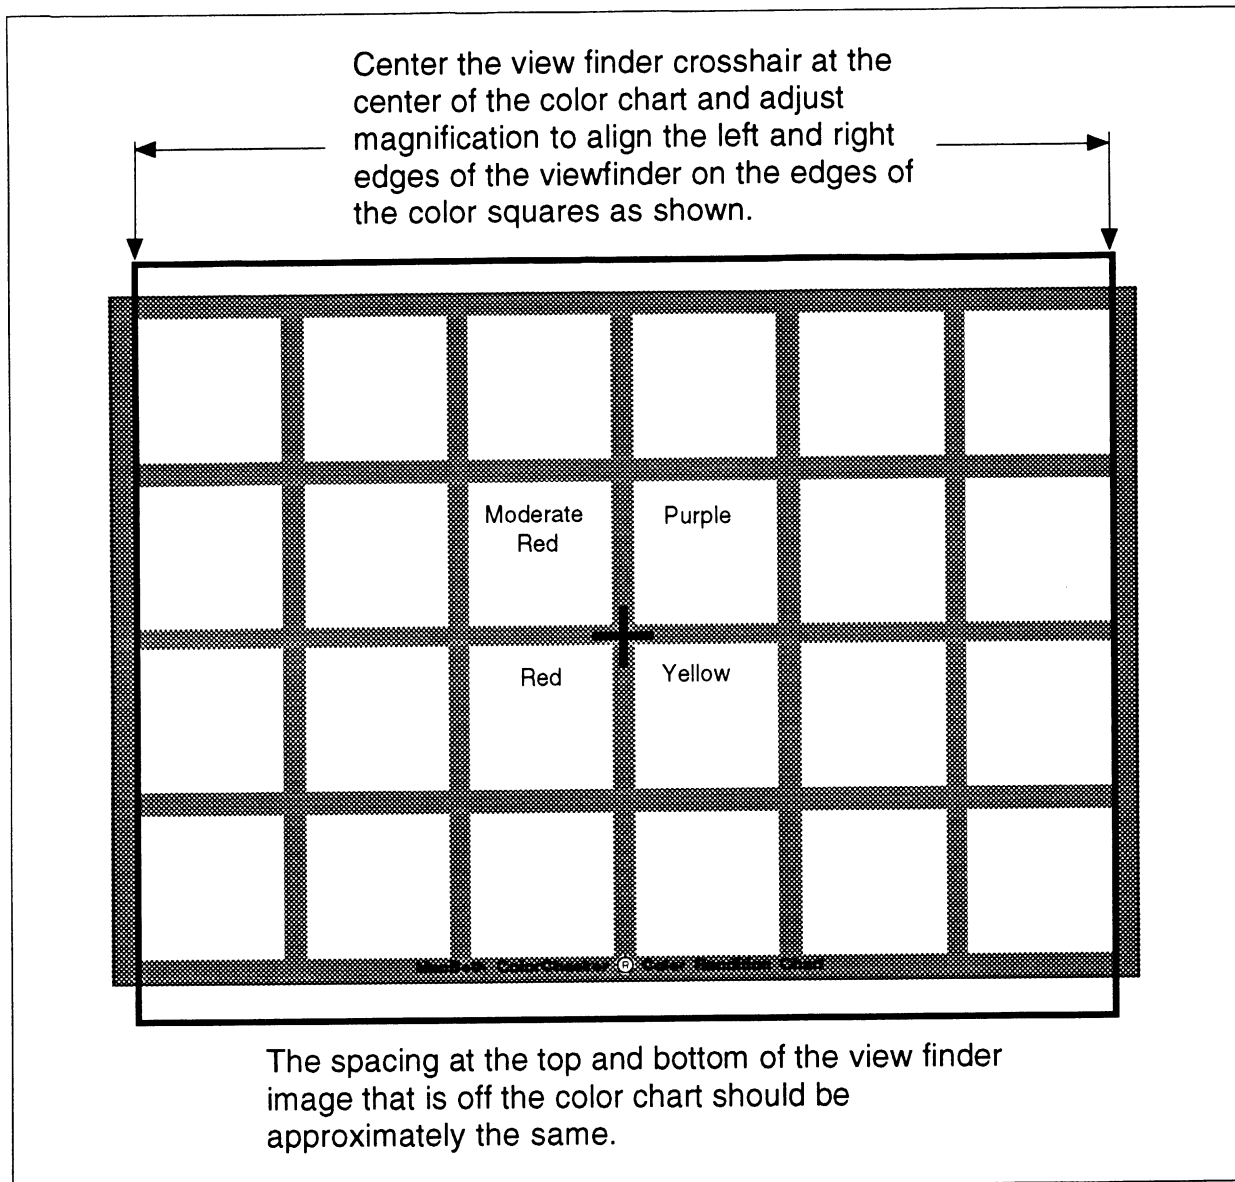

Figure 3-1. Macbeth ColorChecker camera setup for colorimetry measurement.
- If using a standard Macbeth color chart, aim the camera so that the cross-hairs in the camera viewfinder fall between the four center color chips on the chart. (These chips are moderate red, purple, red, and yellow.) Set the camera’s magnification so that the leftmost and rightmost edges of color chips on the chart lie within the viewing area. Because of the differing aspect ratio between the Macbeth chart and the video camera, leave approximately equal space above the top and below the bottom of the chart within the viewing area. See Figure 3-1.